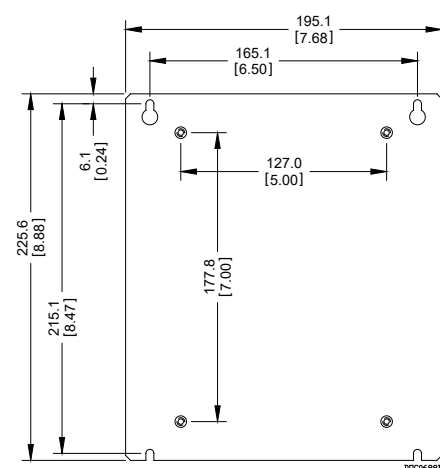

Figure 3. Panel Dimensions
- **Main unit mounted on adaptor panel.** Position as desired on the enclosure mounting plate and locate mounting holes on the plate using the adaptor panel slots as a template. See Figure 3 for adaptor panel dimensions. Drill and tap mounting holes in the plate with a 8-32 UNC thread tap. Position the FB107 with adaptor panel over the tapped locations and attach to the plate with the four 8-32 UNC x .38 inch-long screws provided. Tighten the screws securely.